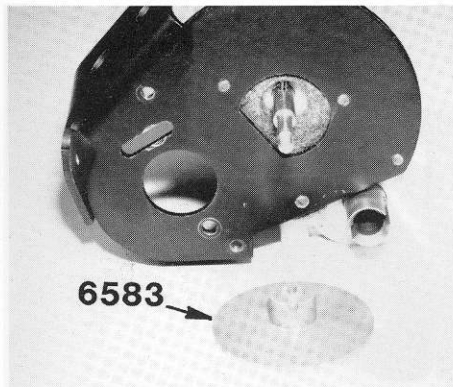

Fig. 70
□ **Figs. 70 & 71** Now we are going to start assembling the Associated Torque Control assembly. From bag E remove the #6583 inner torque control hub (with the slot on the back side as shown in fig. 70). Slide the inner clutch hub over the gear shaft so that the hub aligns with and then slides over the drive shaft roll pin, as shown in fig. 71.